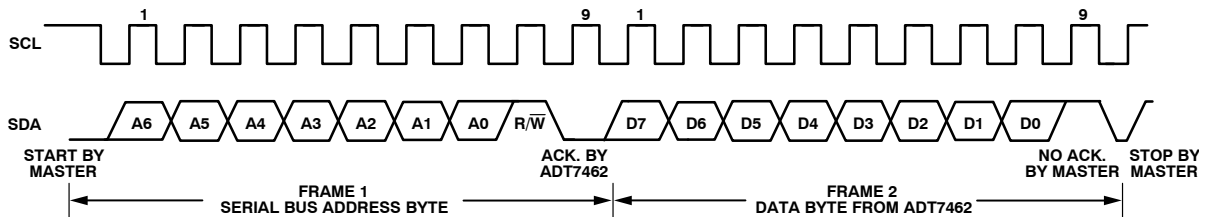

Figure 26. Reading Data from a Previously Selected Register
A read operation is then performed, consisting of the serial bus address and the R/W bit set to 1, followed by the data byte read from the data register (see Figure 26).
- If the address pointer register is known to be already at the desired address, data can be read from the corresponding data register without first writing to the address pointer register (see Figure 26).